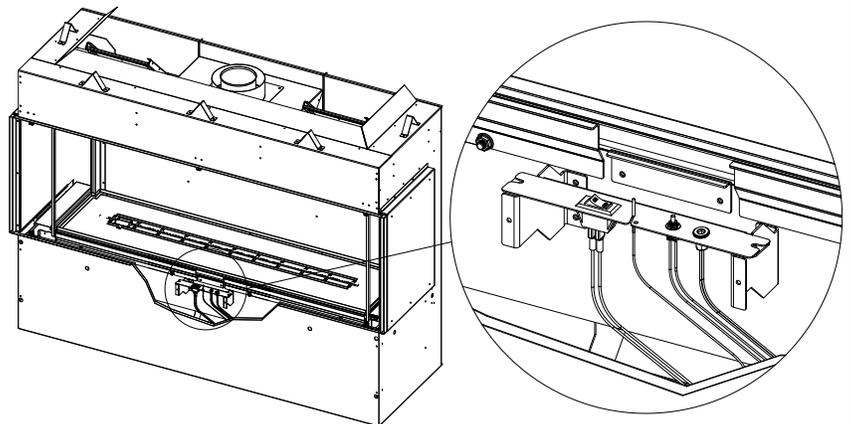

Figure 9.1 - Battery Back-up and Barrel Jack
- To plug in the battery back up you first have to remove the safety screen barrier. Insert the (4) AA Batteries into the battery back and plug the battery pack into the barrel jack adapter on the access panel. See Figure 9.1.